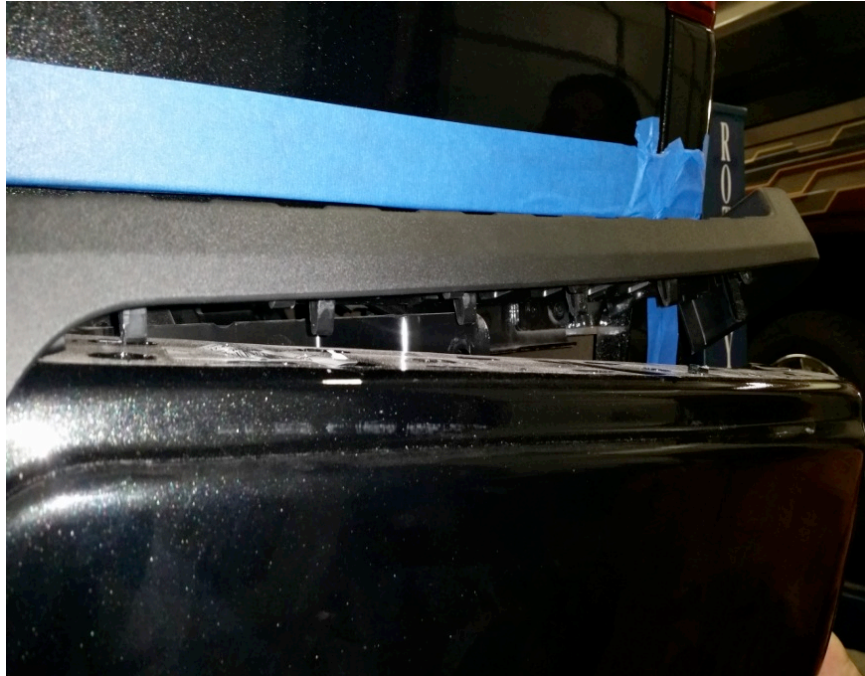

Figure 3
3. Remove one (1) Christmas tree plug and (1) clip connecting the harness to the frame.
5. The OE bumper will come off in 3 pieces. From the outside and starting from the passenger side edge peel away the plastic that is clipped into the top of the bumper (Figure 3). Flat head screwdriver is recommended for removal.